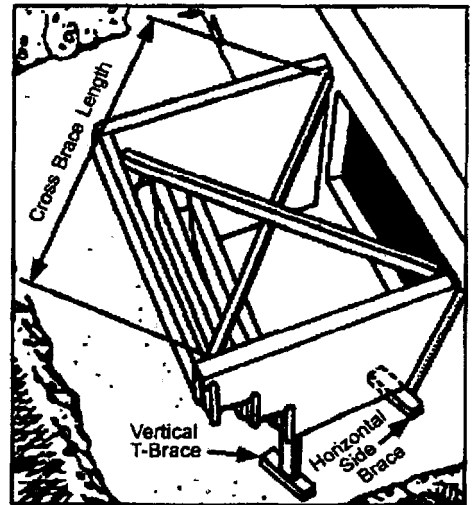

Figure 5
Embedment into the wall surface must be adequate to fully secure the fastener, but shall not be less than 1.5" penetration. Individual fasteners should have an ultimate load tensile capacity (pullout) of at least 1,800 pounds, or a working load tensile capacity of 450 pounds. Ultimate load shear capacity (bending) should be at least 1,700 pounds, or a working load shear capacity of 425 pounds (based on 3000 psi wall material). Wall materials less than 3000 psi may require deeper embedment to achieve required pullout and bending values. Seal/waterproof holes with an exterior grade structural adhesive when anchoring into hollow core masonry units. Attach a 12" horizontal brace under each side panel (see Figure 5). (Note: Brace not supplied with window wail, use 2x4 or 2x6 lumber.)
In addition to the horizontal side bracing mentioned in STEP 3, vertical bracing must be provided to prevent the well from pulling away from the foundation during backfilling. Use (2) wood T-braces measured to fit vertically from firm soil at the bottom of the excavated opening to where the bottom step attaches to the side panels (see figure 5).
In order for the optional cover to fit, the ScapeWEL window well must be installed within a one inch (1") overall tolerance. Proper cross bracing prior to backfilling will ensure that the well will be square. Using a 2 x 4 as a guide, add both diagonal measurements and divide by two to obtain the desired diagonal brace length. After cutting the first diagonal brace and placing it above the second step, recheck the second diagonal for length before cutting. The two 2 x 4 cross braces must be the same length. Place the second diagonal brace on top of the first (see Figure 5). (NOTE: Braces not supplied with window wail, use 2 x 4 or 2 x 6 lumber.)